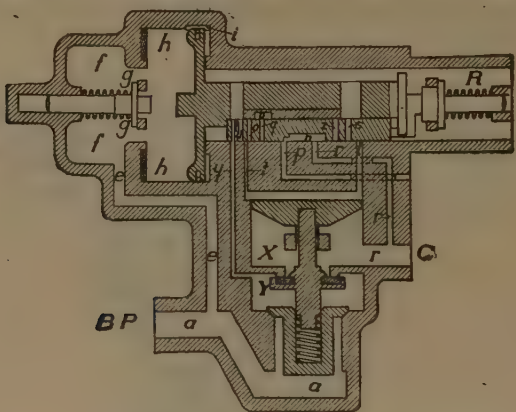

Fig. 318. K Triple Valve, Retarded-Release Position.
A. As shown in Fig. 318: Brake-pipe pressure sends the triple piston to the extreme right, making it strike the slide-valve bush. Then no air can pass through the charging groove *i*; it must pass through *y* in the slide-valve seat and *l* in the slide valve, to get to the auxiliary reservoir. The piston stem